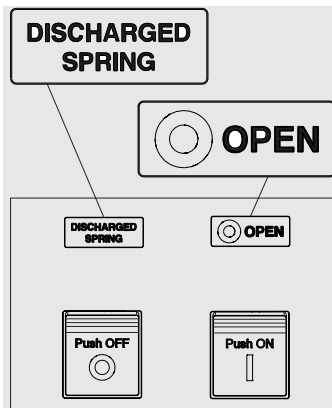

Figure 25
1. Circuit-breaker open with springs discharged (see Figure 25).